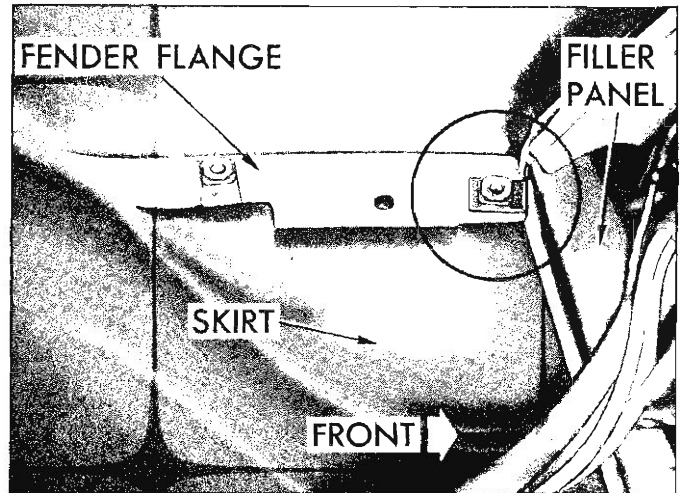

Fig. 110—Position of Left Front Fender Skirt
1. Position skirt on vehicle so that the front flange lies between the fender and bumper filler panel flanges in the area shown in Figure 110.